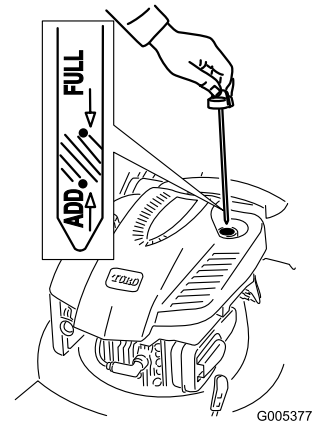

Figure 6
1. Remove the dipstick (Figure 6).
2. **Slowly** pour oil into the oil fill tube until the oil level reaches the Full line on the dipstick (Figure 6). **Do not overfill.** (Max. fill: 0.59 l, type: SAE 30W detergent oil with an API service classification of SF, SG, SH, SJ, SL, or higher.)
1. Remove the dipstick, wipe it clean, and fully install the dipstick (Figure 6).
2. Remove the dipstick and check the oil level (Figure 6). If the oil level is below the Add mark on the dipstick, **slowly** pour oil into the oil fill tube to raise the oil level to the Full mark on the dipstick.